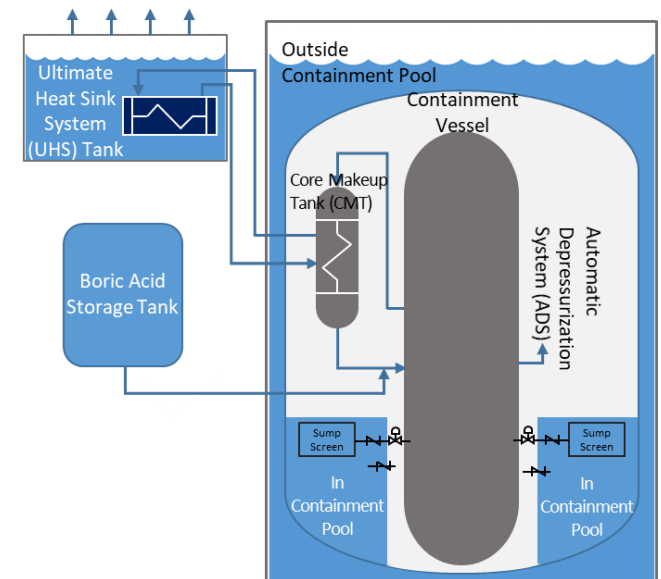

Figure 2. Emergency Systems (larger figure on page 3)
1. What are the safety functions performed by each of the systems in Figure 2?